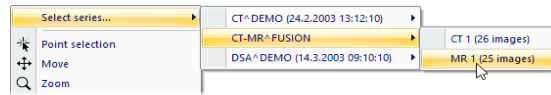

Figure 130 – Series selection using the context menu
2. Right-click to display its context menu (see Figure 130).